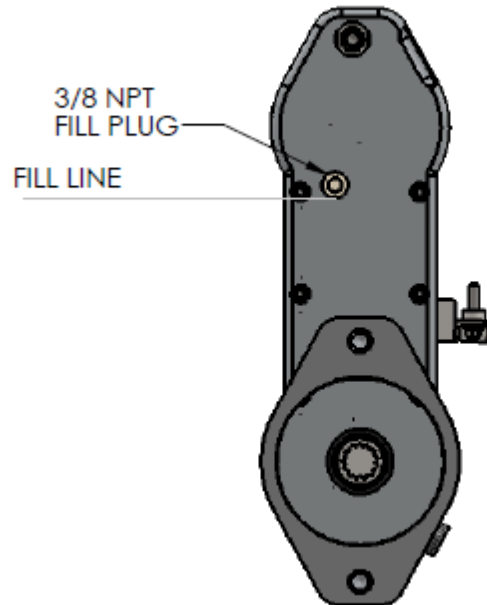

Figure 4
2. On the rear housing, there is a 3/8 NPT plug. See figure 4 below. Remove the plug and fill the gearbox up to the point it starts to come out of the fill hole. Using a clean oil can with a flexible nozzle is the easiest way to fill the gearbox.